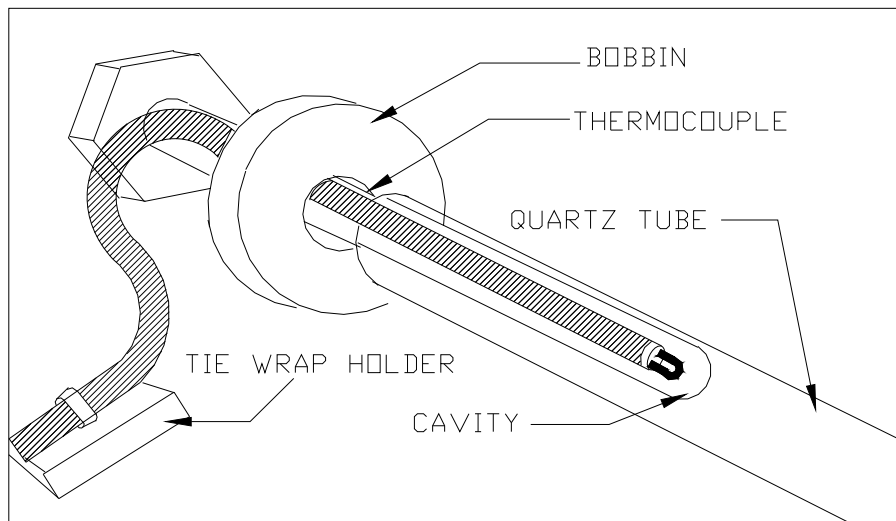

Figure 2-6. Thermocouple Installed
13. The thermocouple should now be properly seated in the cavity of the quartz tube. Refer to Figure 2-6